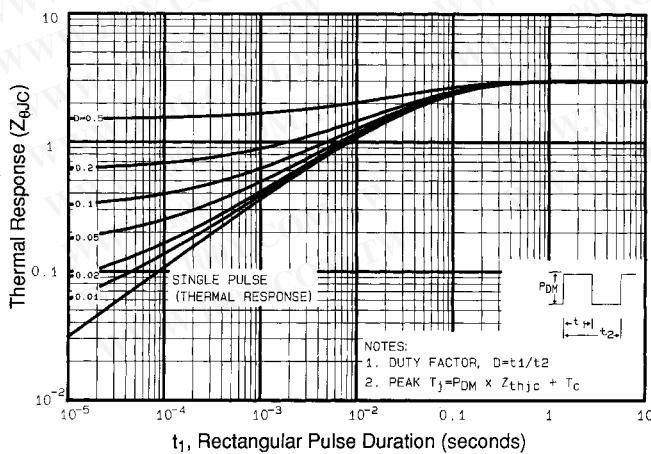

Fig 11. Maximum Effective Transient Thermal Impedance, Junction-to-Case
① Repetitive rating; pulse width limited by max. junction temperature (See Figure 11)
③  $I_{SD}\leq 5.2\text{A}$ ,  $di/dt\leq 95\text{A}/\mu\text{s}$ ,  $V_{DD}\leq V_{(\text{BR})\text{DSS}}$ ,  $T_J\leq 150^\circ\text{C}$